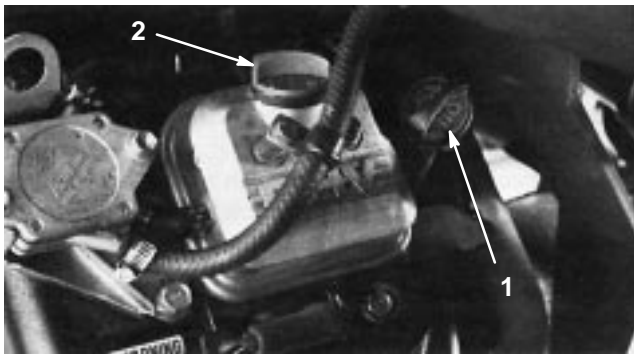

Figure 13
2. Unscrew the dipstick and wipe it with a clean rag. Screw the dipstick into the tube and make sure it is seated fully (Fig. 13). Unscrew the dipstick out of the tube and check the oil level. If the oil level is low, remove the filler cap from the valve cover and add enough oil to raise the level to the Full mark on the dipstick.